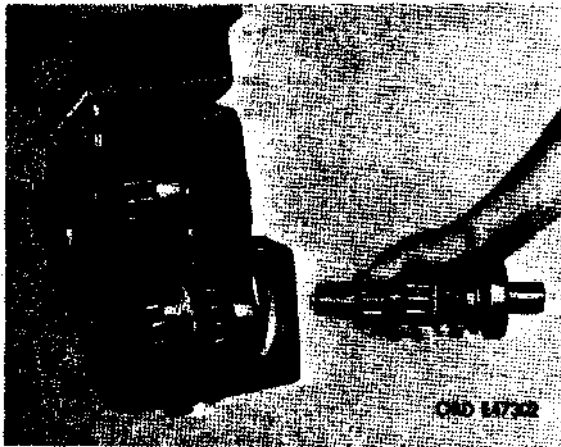

Figure 514. Pump output shaft and bearings removed
(6) Remove pump output shaft and bearing (fig. 514).